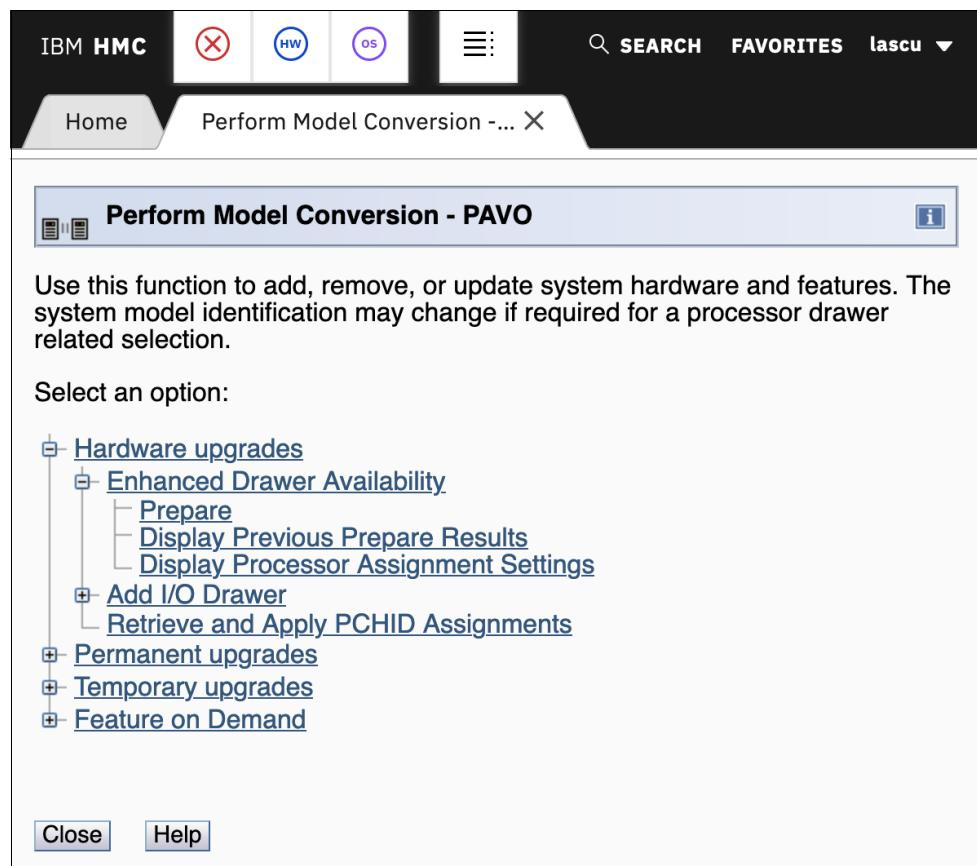

Figure 9-7 Clicking Prepare for Enhanced Drawer Availability option
For the EDA process, this phase is the preparation phase. It is started from the SE, directly or on the HMA, by using the Single object operation option on the Perform Model Conversion window from the CPC configuration task list, as shown in Figure 9-7.
The preparation step can be run without performing a drawer replacement. You can use it to dynamically adjust the operational configuration for drawer repair or replacement before IBM SSR activity. The Perform Model Conversion window in you click **Prepare for Enhanced Drawer Availability** is shown in Figure 9-7 on page 380.
5. Repeat the step that is shown in Figure 9-7 on page 380 to ensure that the required conditions are all satisfied.